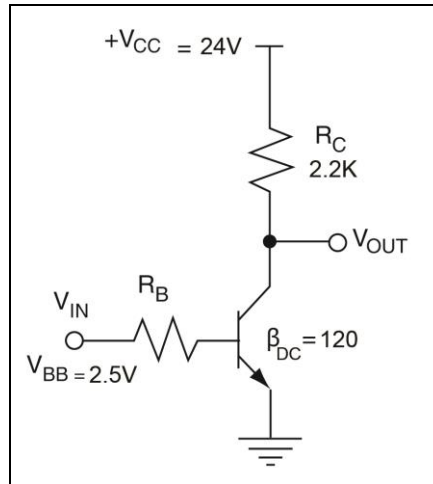

Fig. 3.3-16 Transistor Switching Circuit
9. For the transistor switching circuit of Fig. 3.3-16,